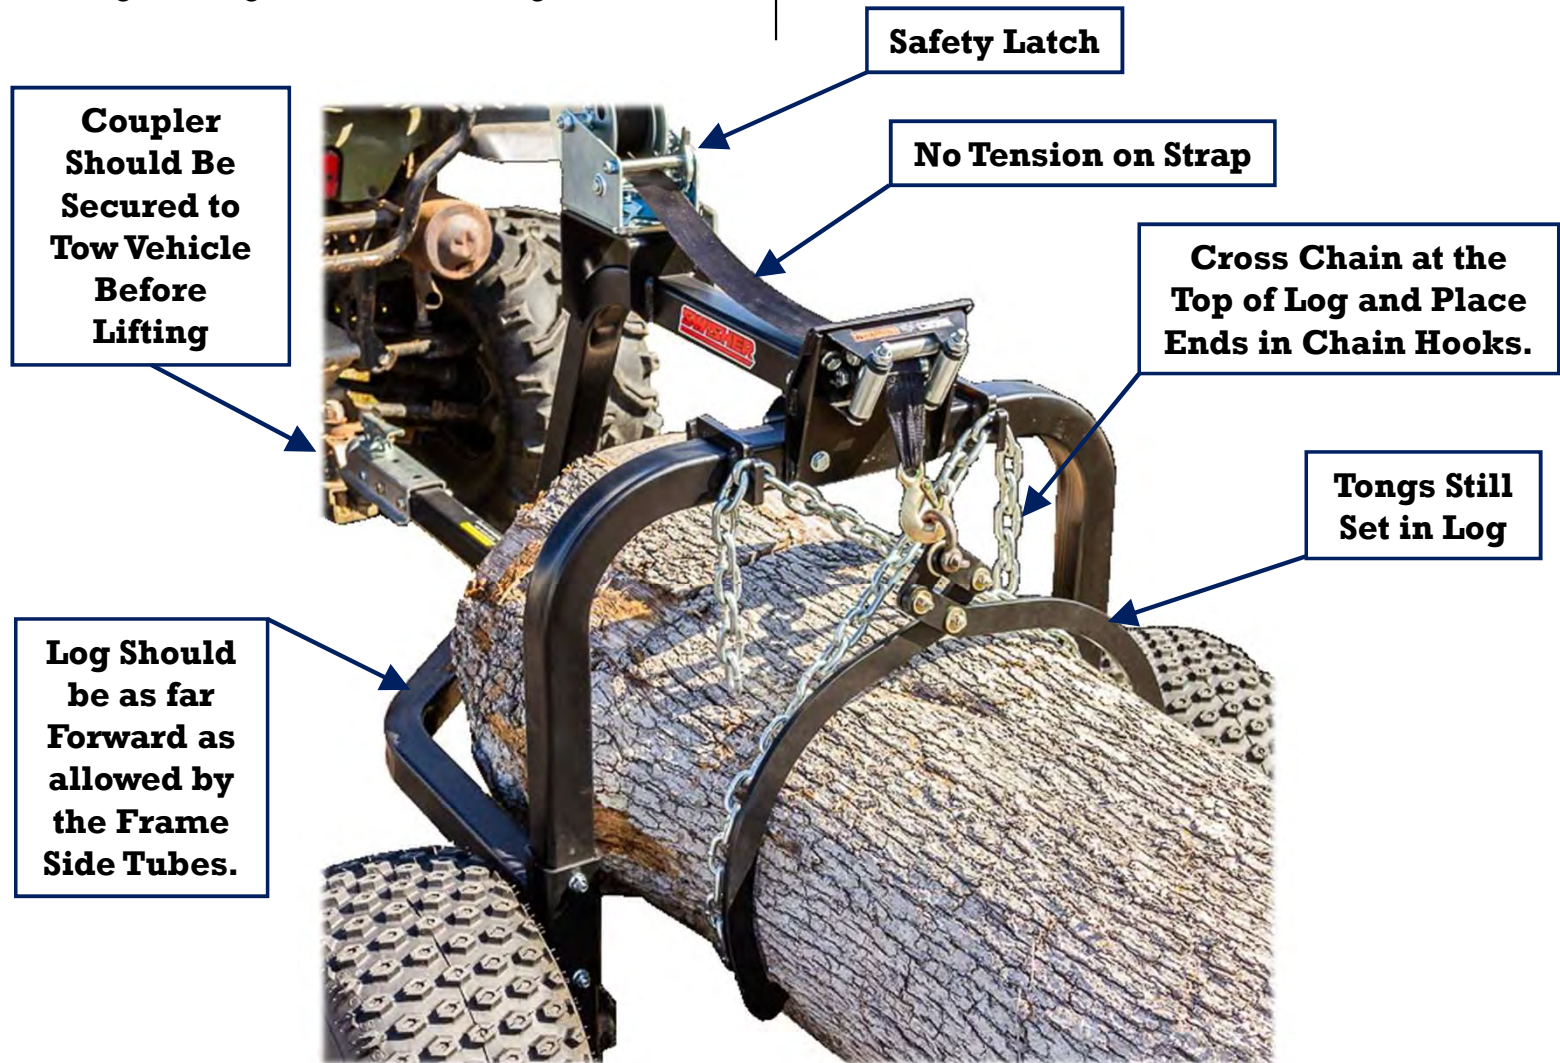

FIGURE 11.1
9. Locate the chain and wrap the log as shown in **FIGURE 11.1**. Hook one end of the chain on the chain hook leaving a minimum of 3 links